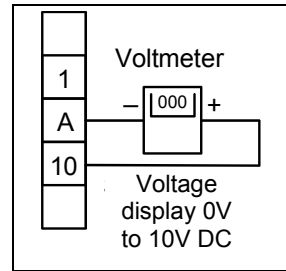

Fig. 1
3. Connect the voltmeter to clamps A and 10 (see fig. 1).